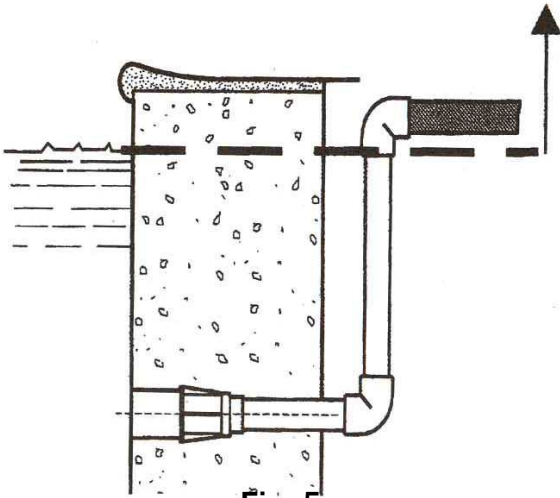

Fig. 5
2. The wall conduit must be extended with a cable conduit the length of which remains above the maximum level of the swimming pool or spa (Fig. 5).